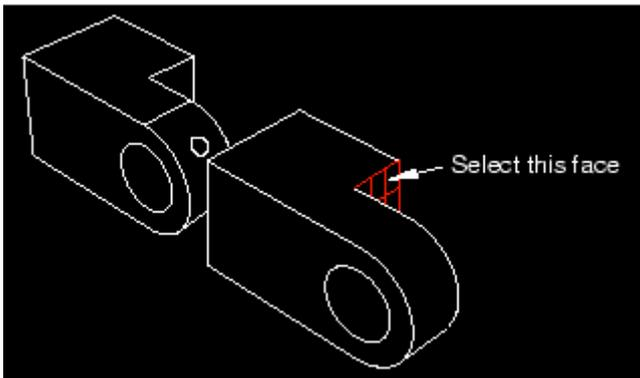

Figure C-24 Select a face on the movable part instance
2. From the movable part instance, select the face of the solid hinge piece shown in Figure C-24.